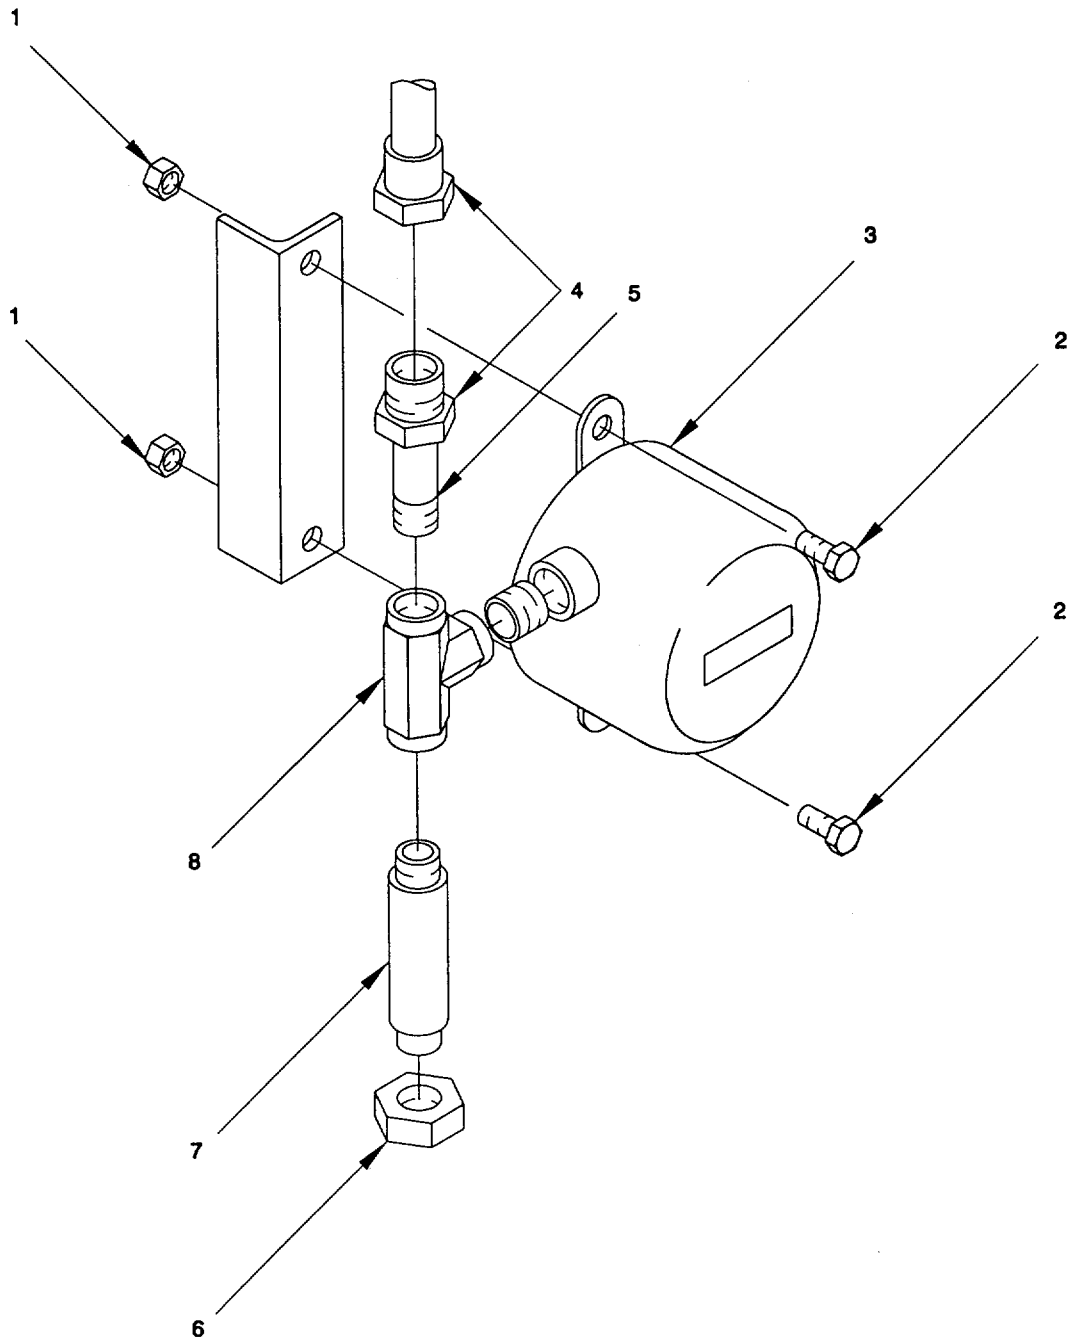

Figure 2-38. Alarm Siren, Fire Suppression System, Remove/Install
a. Remove. (figure 2-38)
- (1) Remove self-locking hex nuts (1), and capscrews (2) freeing siren (3) from bulkhead bracket.
- (2) Separate union (4), pipe (5), pipe cap (6), pipe (7), tee (8), and nipple (9) from siren (3).
b. Install. (figure 2-38)
- (1) Apply Teflon tape to all male fittings and piping ends.
- (2) Install nipple (9), tee (8), pipe (7), pipe cap (6), pipe (5) and union (4) on siren (3).
- (3) Position siren (3) on bulkhead bracket. Secure with capscrews (2) and self locking hex nuts (1).